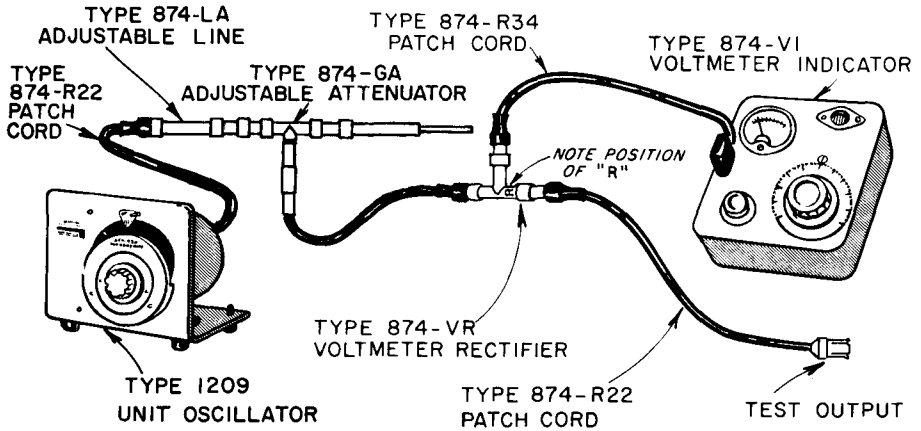

Figure 3. Setup of Unit Oscillator and Accessories for Use as Standard-Signal Generator.
3.2 UNIT OSCILLATOR AS SIGNAL GENERATOR FOR RECEIVER TESTING. The Type 1209-B Unit Oscillator, as a well-shielded power source, can be used as a signal generator to test receivers if means are available to measure and attenuate the output. The Type 874-VR Voltmeter Rectifier, Type 874-VI Voltmeter Indicator, and Type 874-GA Adjustable Attenuator are suitable for this purpose, and should be connected to the Unit Oscillator as shown in Figure 3. Also, a Type 874-D50 Adjustable Stub is required to produce a current maximum at that point of the attenuator where the adjustable output loop is coupled. A tuning